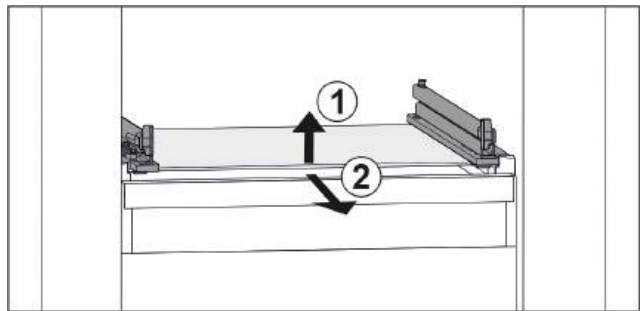

Fig. 125 Example illustration of glass shelf
- ▶ Lift glass shelf at the front. Fig. 125 (1)
- ▶ Take out glass shelf to the front. Fig. 125 (2)